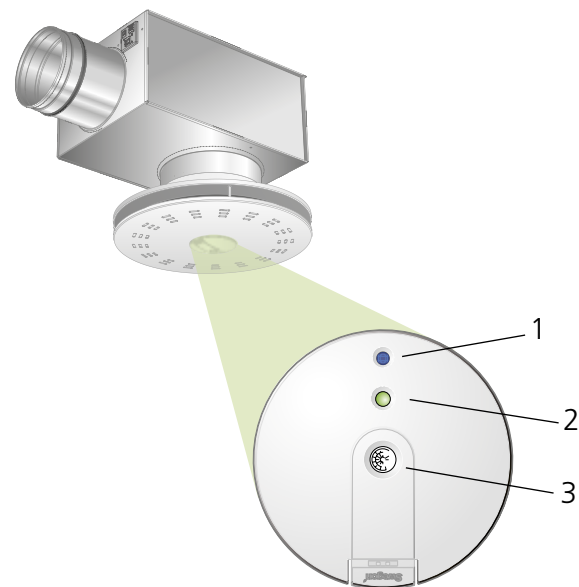

Figure 1. The sensor module of ADAPT Extract with connection for TUNE Adapt.
- The air diffuser controls the airflow with an active damper inside the commissioning box, see figure 1.
- Inside the air diffuser, is a controller providing all the required set points and control functions as well as a multi-functional sensor module, see figure 1.